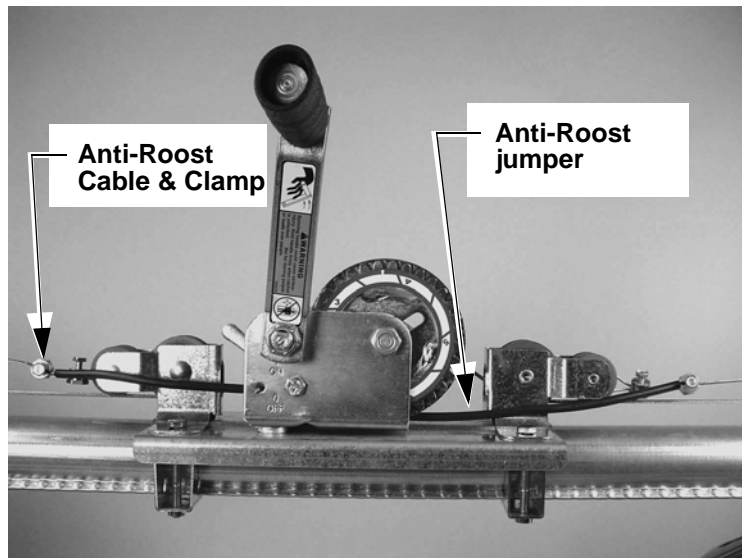
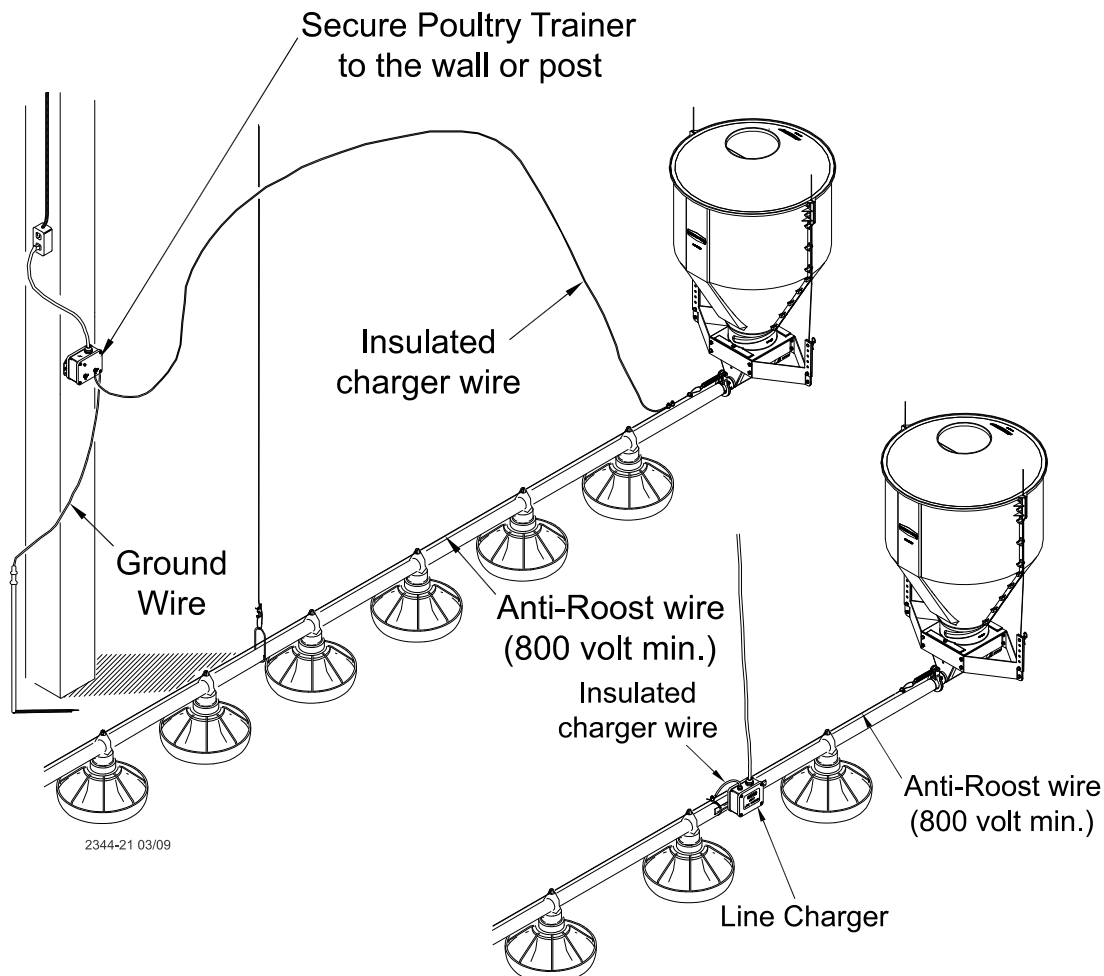

Figure 60. Anti-Roost Cable Connection
Figure 61. Anti-Roost Cable Mid-Line Connection
12. Install the Poultry Trainer or Line Charger, as shown in **Figure 60** or **Figure 61**.
The Poultry Trainer is used to power all Anti-Roost lines in a house. See **Figure 61**.